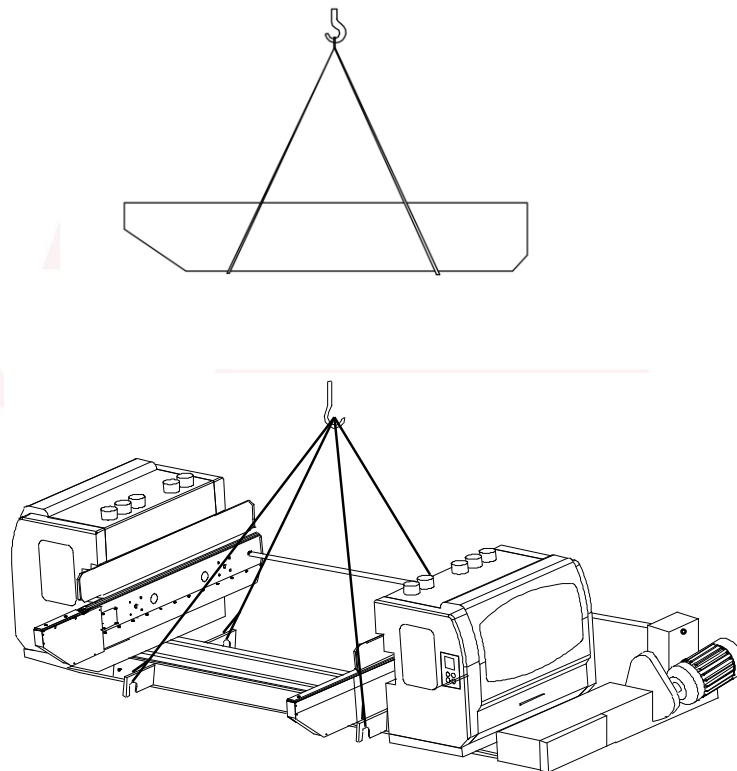

Figure 4
- ② For big size of spare parts such as feeding chain belt, must follow the instruction and use professional hook tape to move. Use the tape to support two side of the chain belt to insure the parts won't slip off.
- ③ Please use special hook which is accompanied with the machine for the portage of machine. Move the active rack to an appropriate position and keep balance before lifting the entire machine, be careful of overturn. Please see (Figure 4)